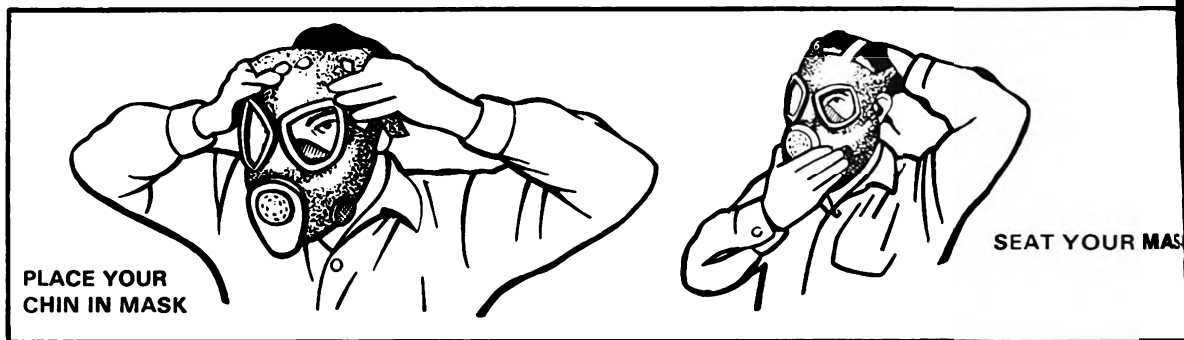

Figure 1.
4. Place chin in the chin pocket, then pull the head harness over the head, making sure that all head straps are straight and the head pad is centered (figure 1).